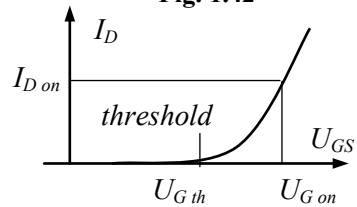

Fig. 1.43
**Power enhancement-mode MOSFET.** In the *power enhancement-mode MOSFET*, the structure of a semiconductor is composed of many thousands of cells connected in parallel to achieve a large gain and low on-state resistance. Overall, the input curve of the power MOSFET is almost linear compared with the parabolic transfer curve of the small-signal MOSFET (Fig. 1.43). When the MOSFET is driven by high gate-source voltage, it is operating in the ohmic region and its gain value is approximately constant. The threshold voltage is in the range of 2 to 4 volts. To keep the transistor in the off state when the gate voltage is zero, the drain-source voltage must not be higher rather than the maximum allowed value. In comparison with BJT, power MOSFET does not suffer the second breakdown and does not require the large base currents. The switching processes of the power MOSFET are much faster than those of bipolar transistors because they have no excess minority carriers that must be moved into or out of the device as it turns on or off. The switching intervals of the power MOSFET are in the range of 10 to 300 ns. These advantages make the power MOSFET suited to switching applications.